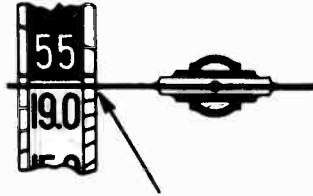

FIG. 3—Dial Pointer Calibration
**EQUIPMENT REQUIRED:** (1) Signal Generator, using a fundamental frequency range covering the tuning and intermediate frequencies of the receiver. Philco Model 077 Signal Generator which has a fundamental frequency range from 115 to 36,000 K.C. is the correct instrument for this purpose; (2) Output Meter, Philco Model 026 Circuit Tester incorporates a sensitive output meter and is recommended; (3) Philco Fibre Handle Screw Driver, Part No. 27-7059 and Fibre Wrench, Part No. 3164.
2. Holding the tuning condenser in this position, turn the pointer until it is in the position shown in Fig. 3. This is the correct position of pointer at maximum capacity of tuning condenser.